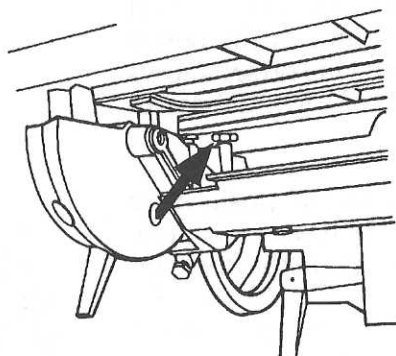

Fig. B-57
14. Both 90° stops (shown in Figs. B-57 and B-58) should contact the underside of the table. If they don't, use a 1/2" wrench to adjust the stops.